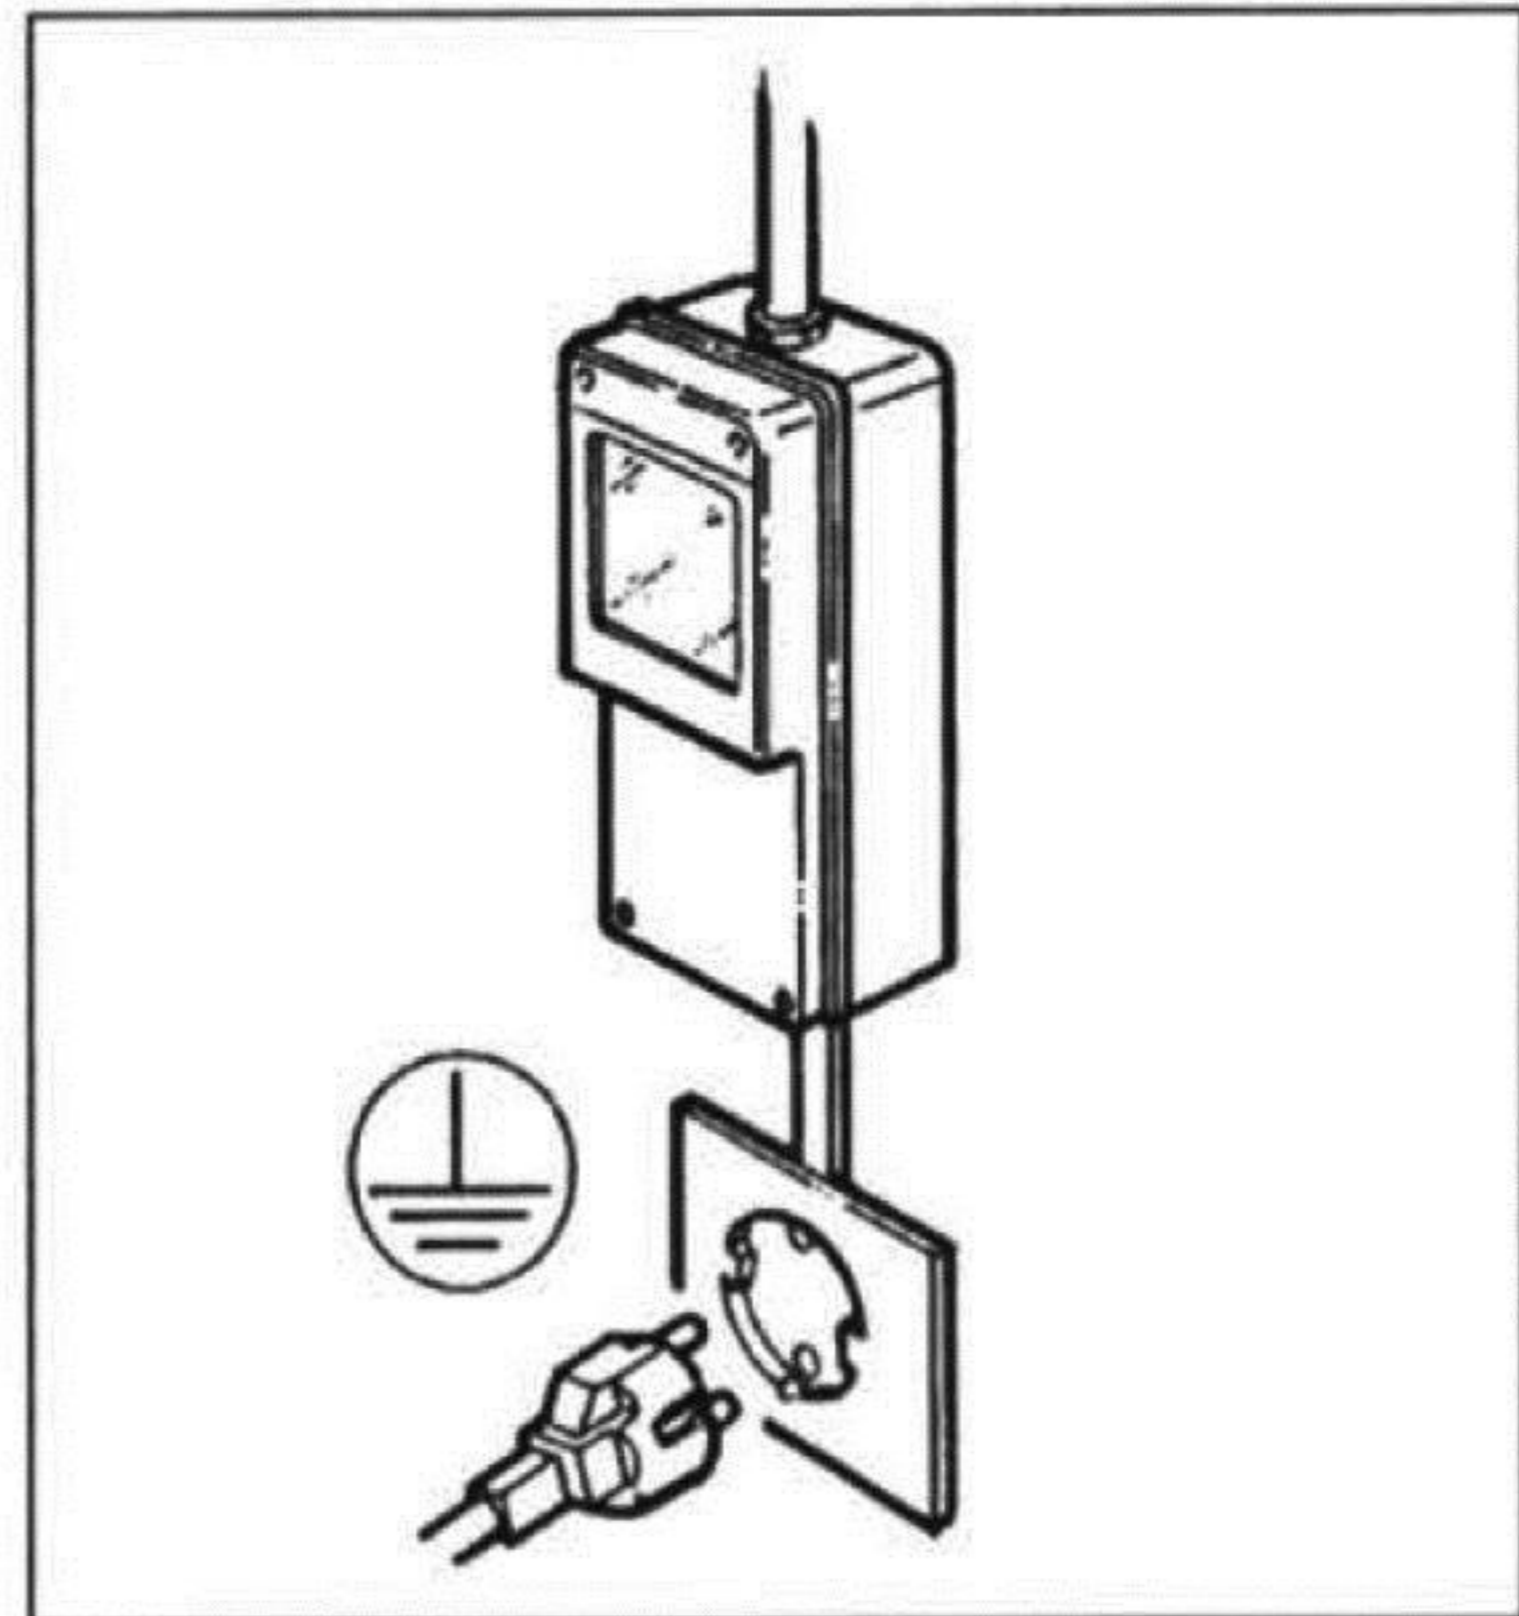

fig.3
- The machine's electrical safety is only guaranteed when it is connected to a suitable earth system, structured as provided by the national safety current regulations (fig.3). Therefore, the manufacturer cannot be held responsible for any damage due to failure of the grounding system of the machine.
- For a safe and correct installation, it is essential to provide a suitable socket controlled by a thermal cut - out switch whose contacts are at least 3 mm apart, in accordance with the current national safety regulations(see fig.3).